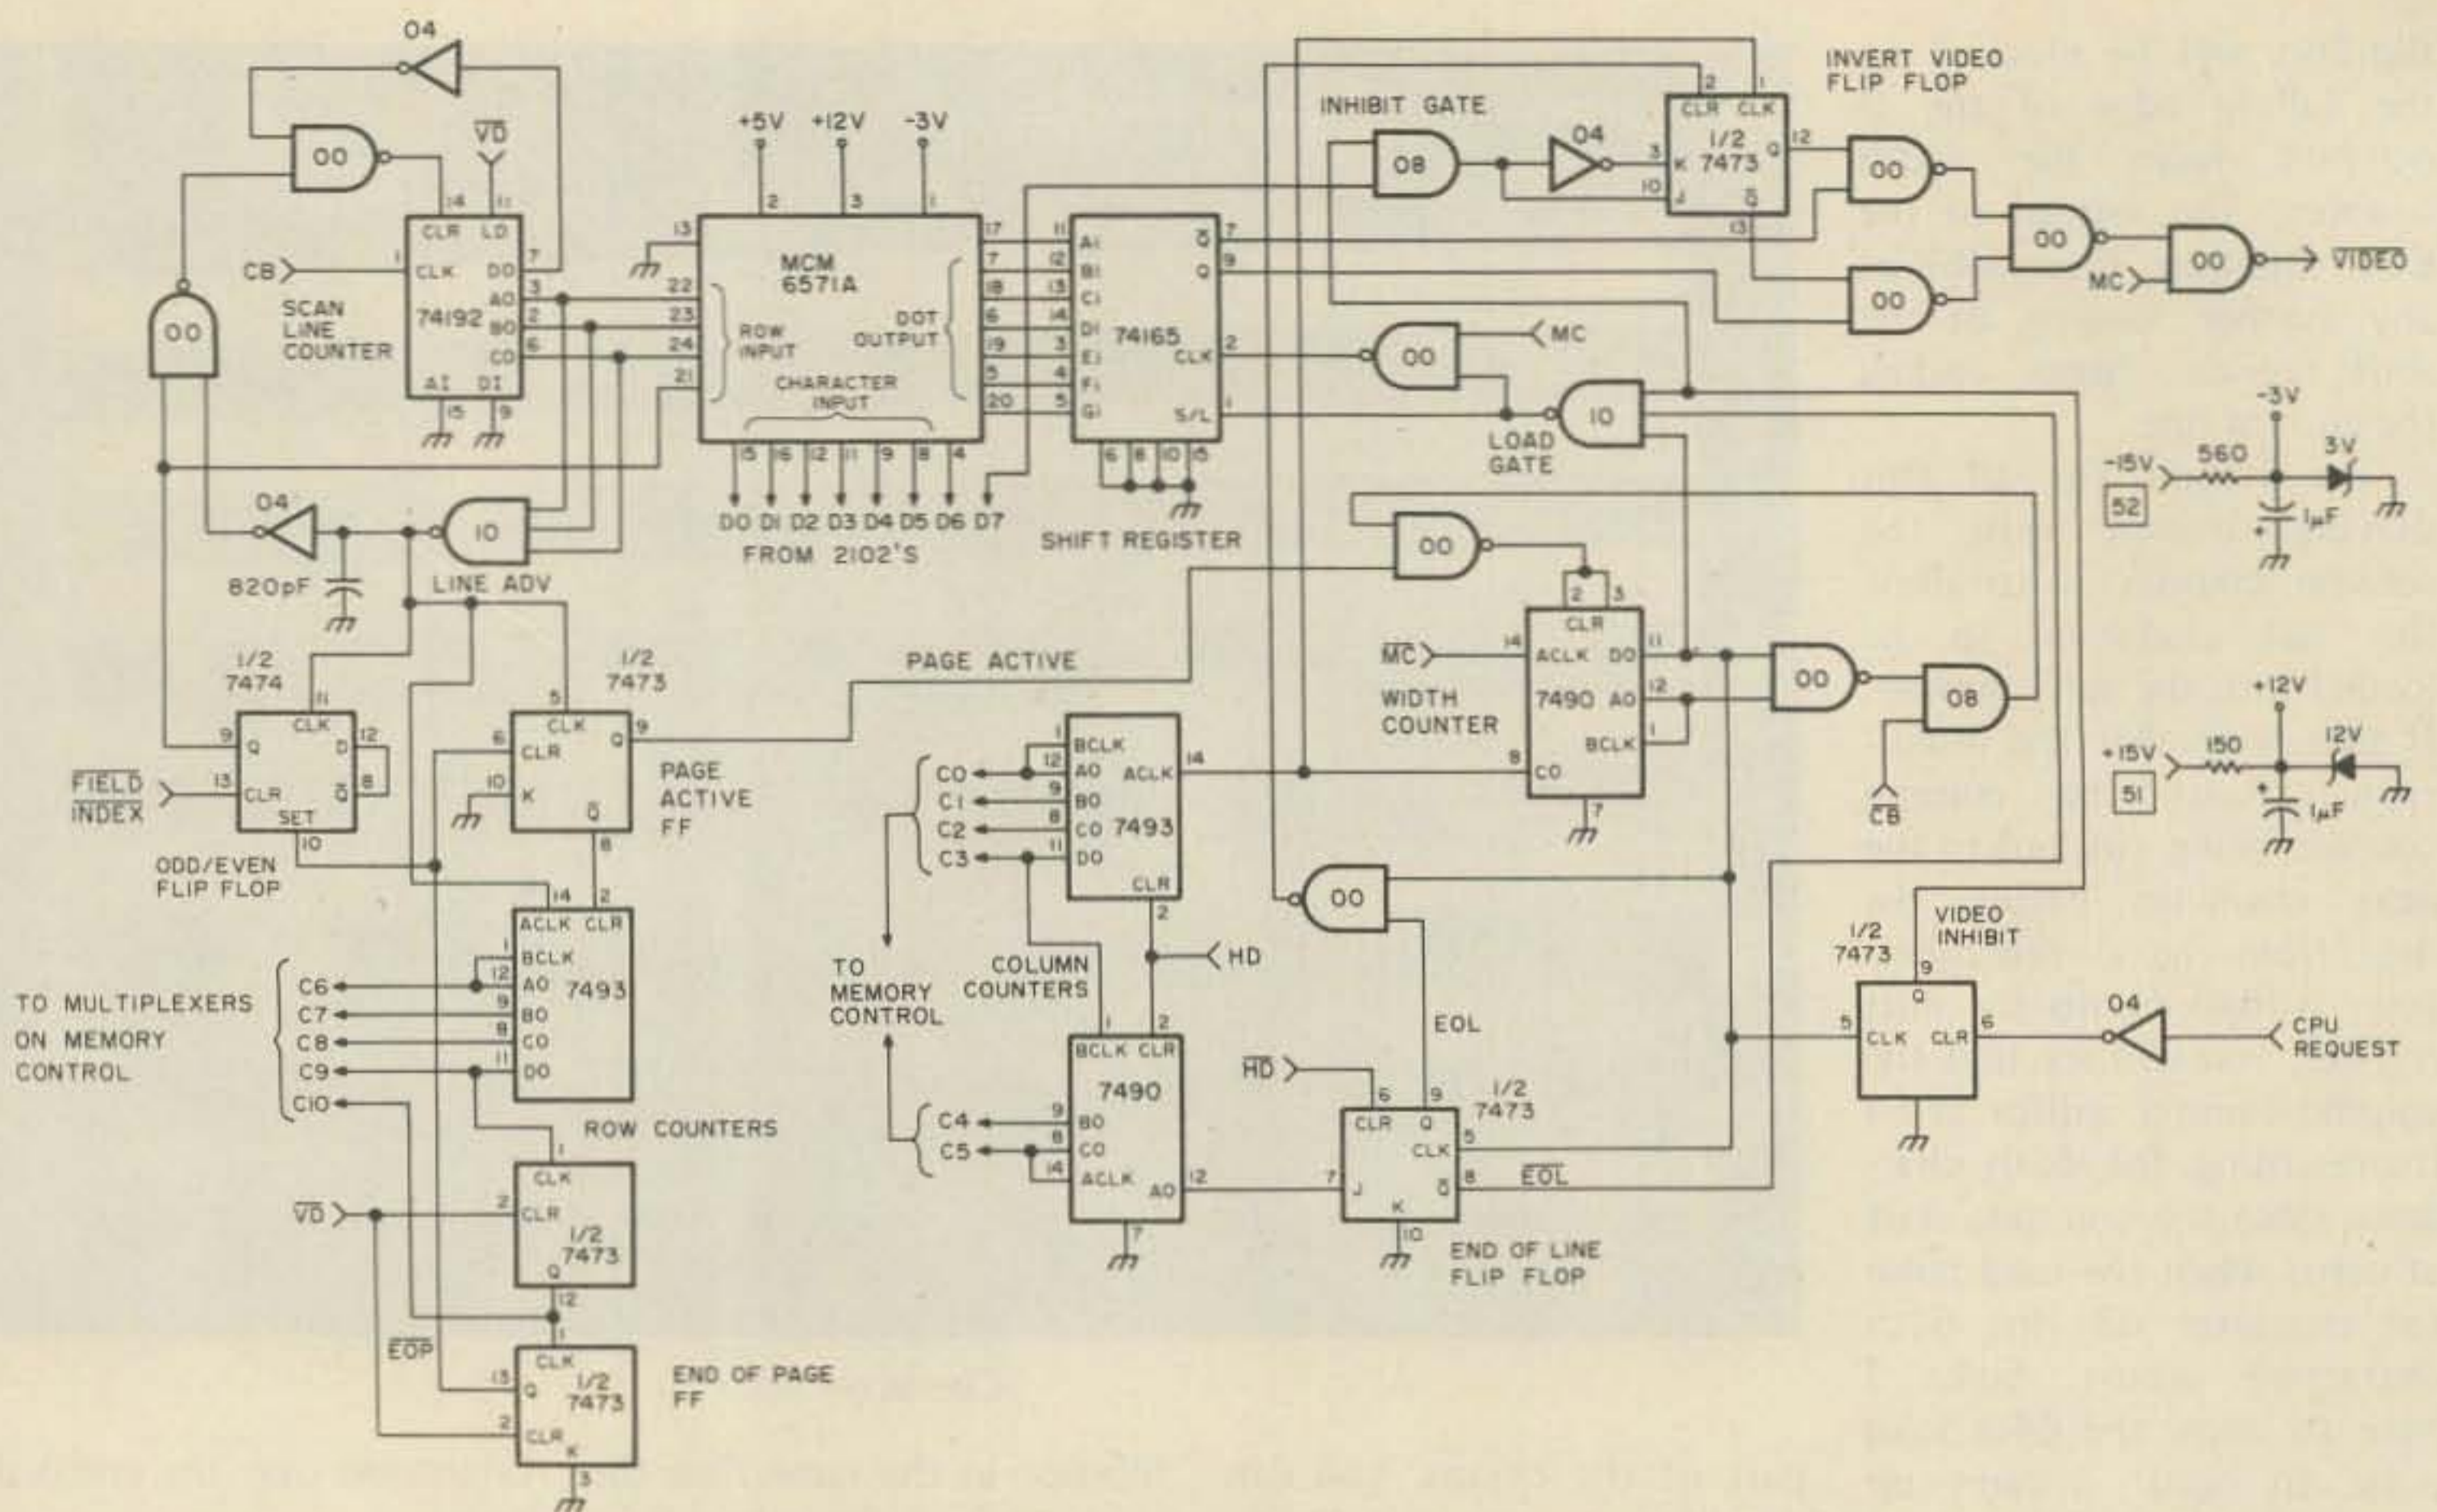

Fig. 5. Schematic diagram of display control circuits.
Several signals within the control circuitry are important, and discussion of their functions will help to explain the operation of the display control (see Fig. 5). These are PAGE ACTIVE, FIELD INDEX (FI), LINE ADVANCE, END OF PAGE (EOP), END OF LINE (EOL), MASTER CLOCK (MC), VERTICAL DRIVE (VD), HORIZONTAL DRIVE (HD), and COMPOSITE BLANKING (CB). VERTICAL and HORIZONTAL DRIVE are really just vertical and horizontal